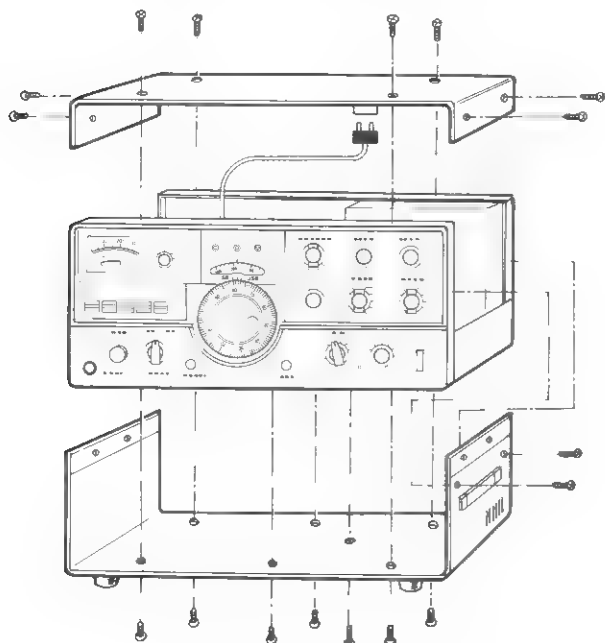

Fig. 28 Removing the TS-520S's Case
■ REMOVING THE CABINET (See Figure 28)
Figure 28 shows how to remove the TS-520S's cabinet. Remove the eight top cover screws and the nine bottom cover screws and lift away the panels. The speaker leads will still be attached to the chassis so be careful when removing the top cover. The leads can be unplugged, if necessary